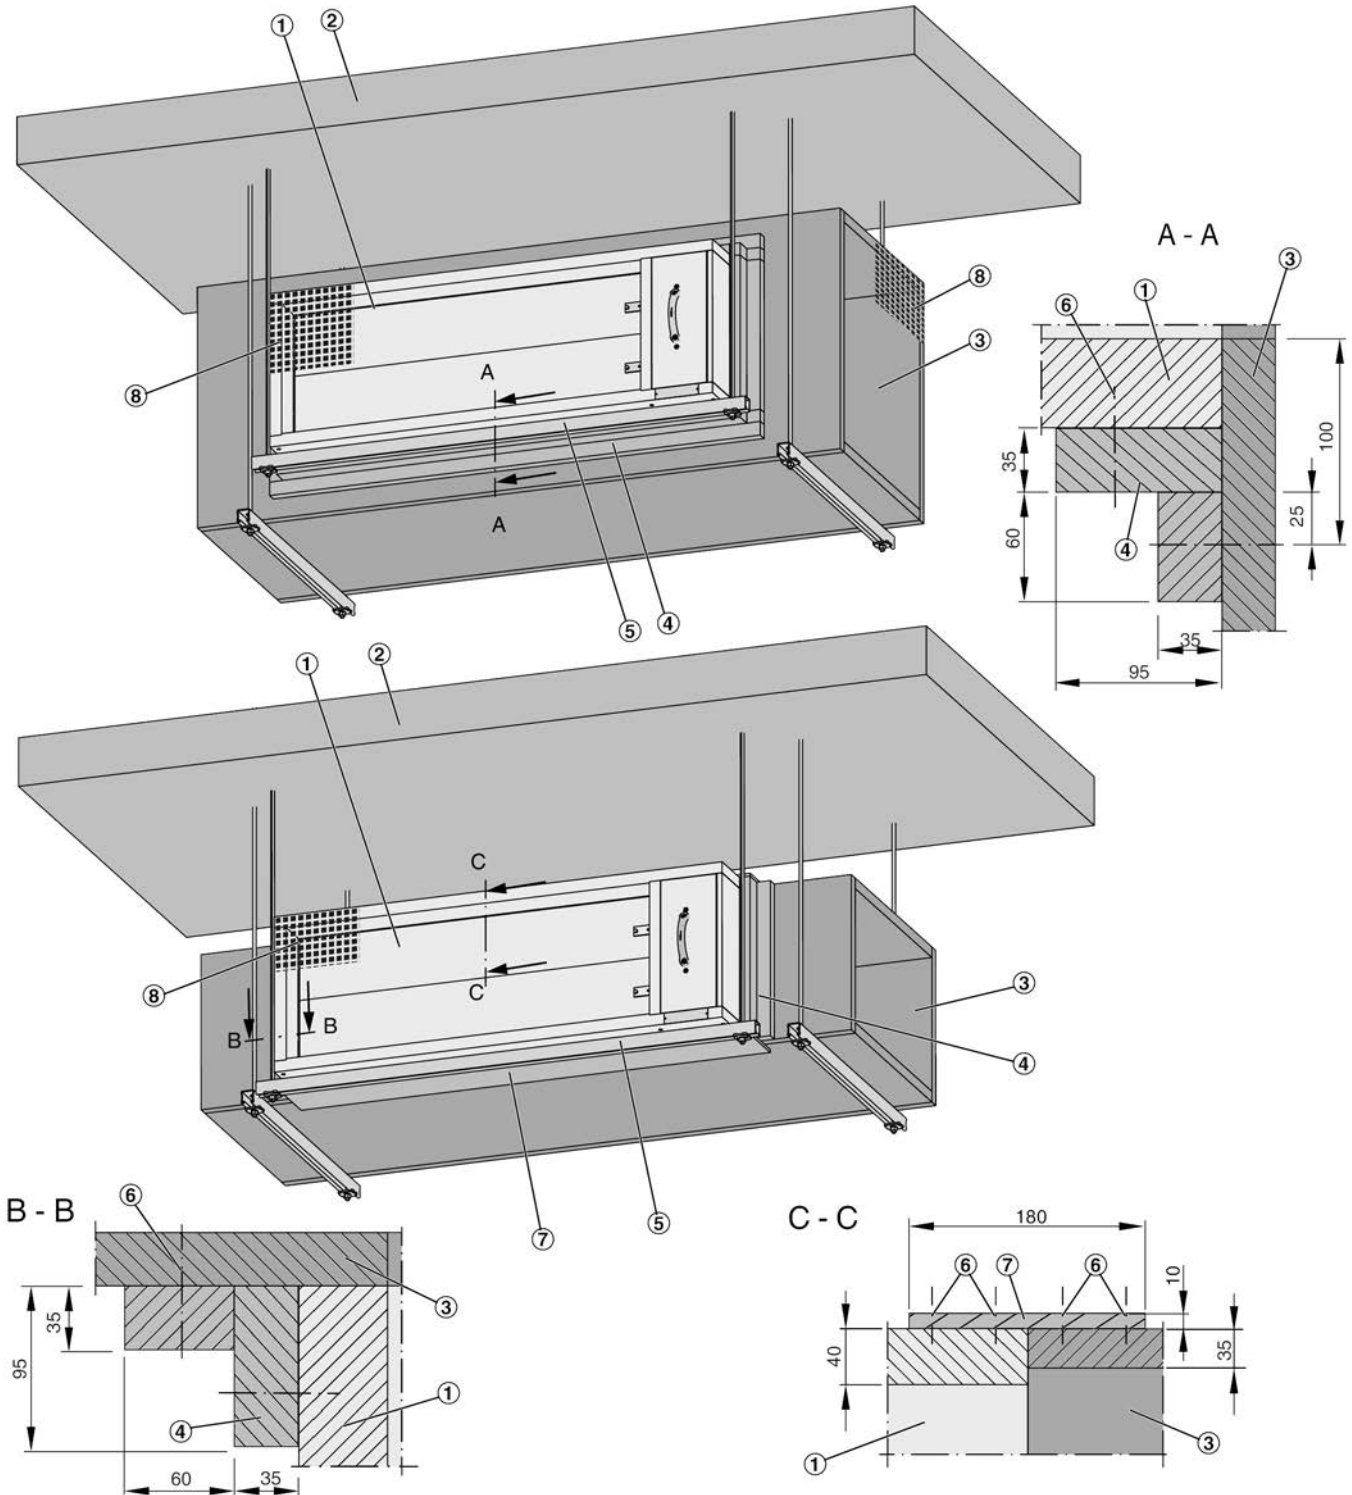

Fig. 31: Installation in a fire-resistant horizontal smoke extract duct
4. ▶ If the smoke extract duct and the smoke control damper are of the same height, you can use a connecting strip ( Fig. 31 /7) instead of an angle section.
5. ▶ Connect the smoke extract ducts (installation side and operating side) to the smoke control damper ( Fig. 31 /8), ↗ 6 'Smoke extract duct and cover grille' on page 65 .